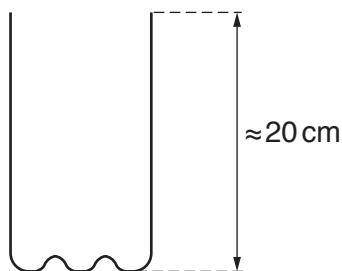

Fig. 2.1
- 1 The bottle should be cut down to a height of approximately 20 cm, as shown in Fig. 2.1.